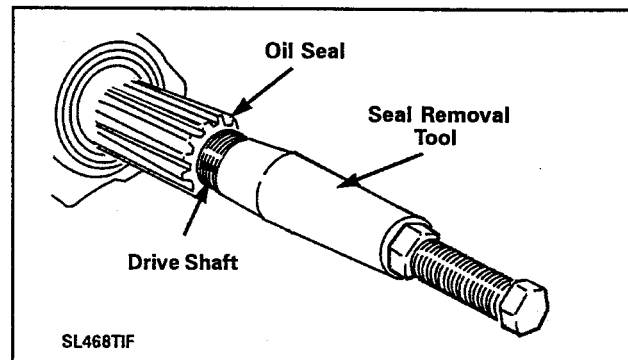

Figure 7-7a
3. Use tool part number **2000021**. Remove the old seal from the lower housing (*Figure 7-7a thru 7-7c*).